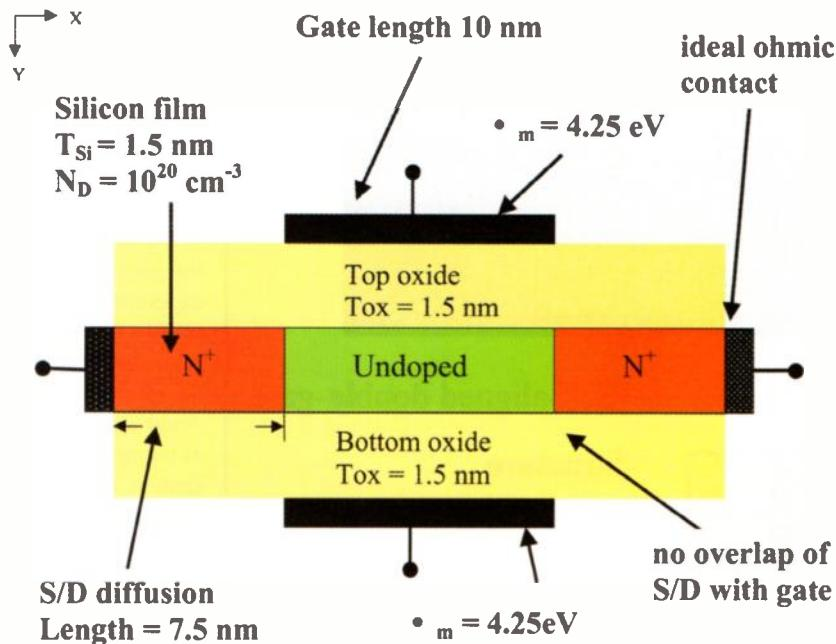

Figure 2.
The device design and physics issues of ballistic double gate (DG) MOSFET's were explored using both semi-classical and quantum simulations (Figure 2 shows a schematic diagram of the model device). A 10nm channel length seems to be the rough dividing line between classical and quantum operation: above that MOSFET's essentially operate as classical devices; below that, quantum effects largely take over. It was found that tunnelling from source-to-drain increased the off-current but decreased the on-current for a 10nm model transistor. It was also found that